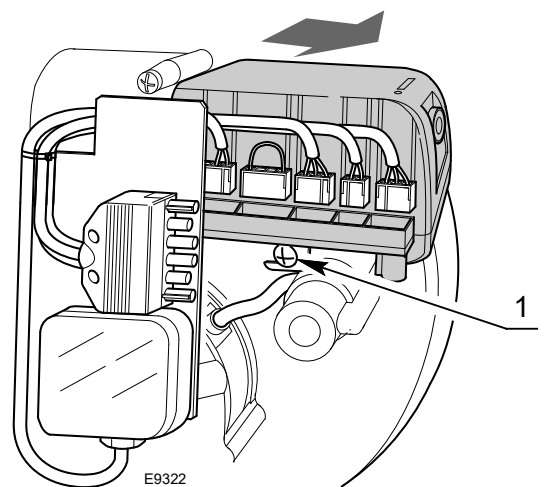

Fig. 15
- disconnect all the connectors connected to it, the 6-pin plug, the high voltage cables, and the earth wire (TB);
- loosen the screw 1)(Fig. 15) and pull the flame control in the direction of the arrow.
- tighten screw 1)(Fig. 15) with a tightening torque of $1 \div 1.2$ Nm;